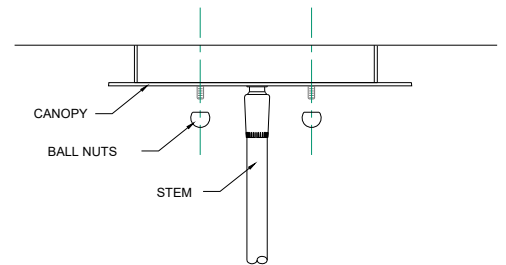

FIGURE-03
- Using the ball nuts, loosely fasten the fixture to the mounting ring. Rotate and align the canopy as necessary. Tighten the ball nuts. (See Figure -03)